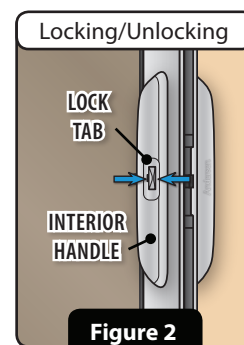

Figure 2
- b3 Measure and mark from each end of the Sill Adapter the **Halved Calculated Length** so equal amounts are removed from both sides (see Figure 2).
To lock the insect screen door, move the **Lock Tab** toward the screen assembly. To unlock, move the **Lock Tab** away from the screen assembly (see Figure 2).